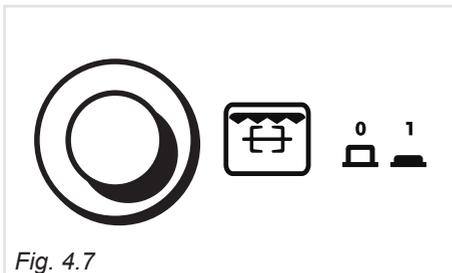

Fig. 4.7
- Switch on the grill by pressing the pushbutton indicated in fig. 4.7; also the rotisserie motor switches on.
The rotisserie motor is operated by pressing the pushbutton indicated by the symbol   on the control panel (fig. 4.7).